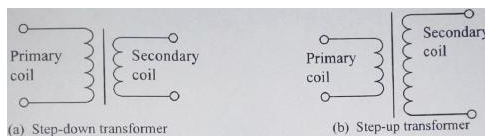

Figure 3: real examples of transformers
- Figure 3** shows diagrams of real transformers.